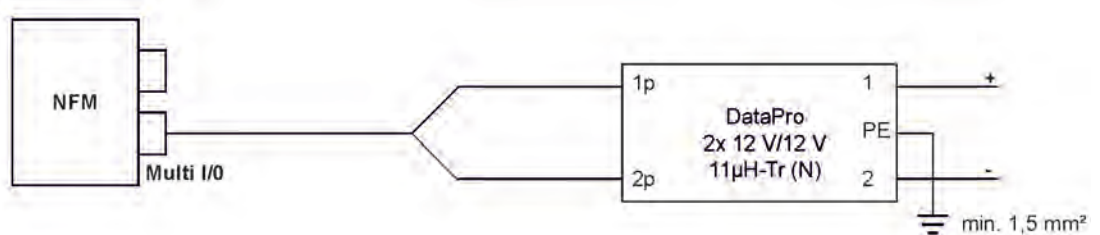

Fig. 25-3 General overvoltage protection for DC power supply
For **direct external power supply** using 12 V DC (e.g. solar power) the type DataPro 2x1 12V/12V-11µH-Tr(N) for non-Ex (Fig. 25-3).